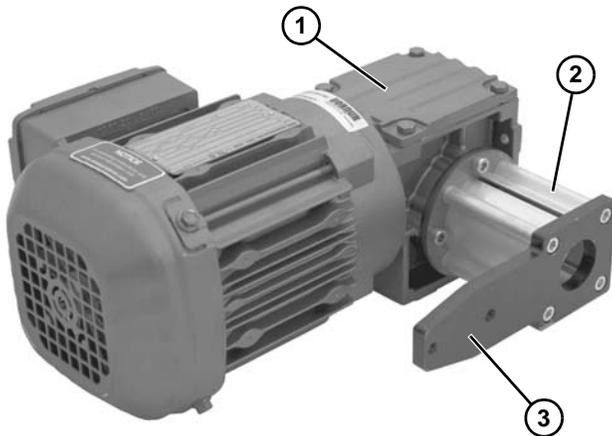

Figure 2
1. Typical components (**Figure 2**)
Flat belt mounting package shown above (**Figure 2**), cleated belt mounting package similar.